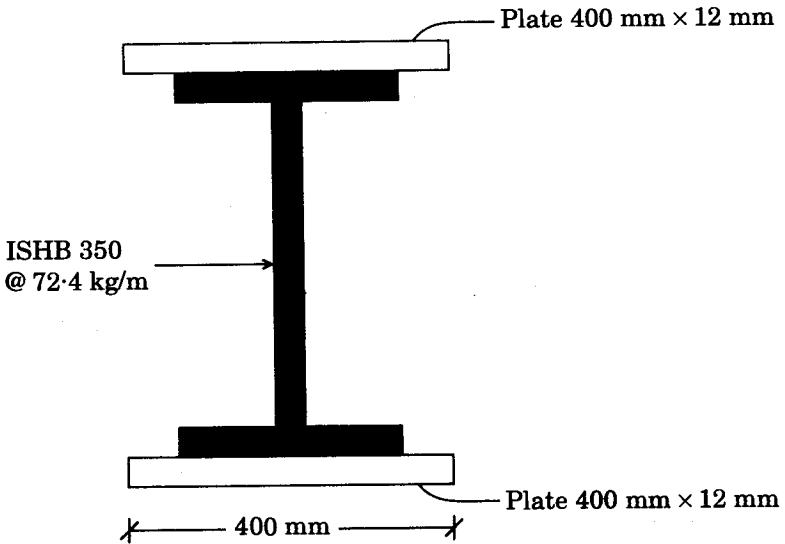

Figure 3
7. Calculate the safe load a column can carry with an effective length 5 m. The section of column is as shown in Figure 3.